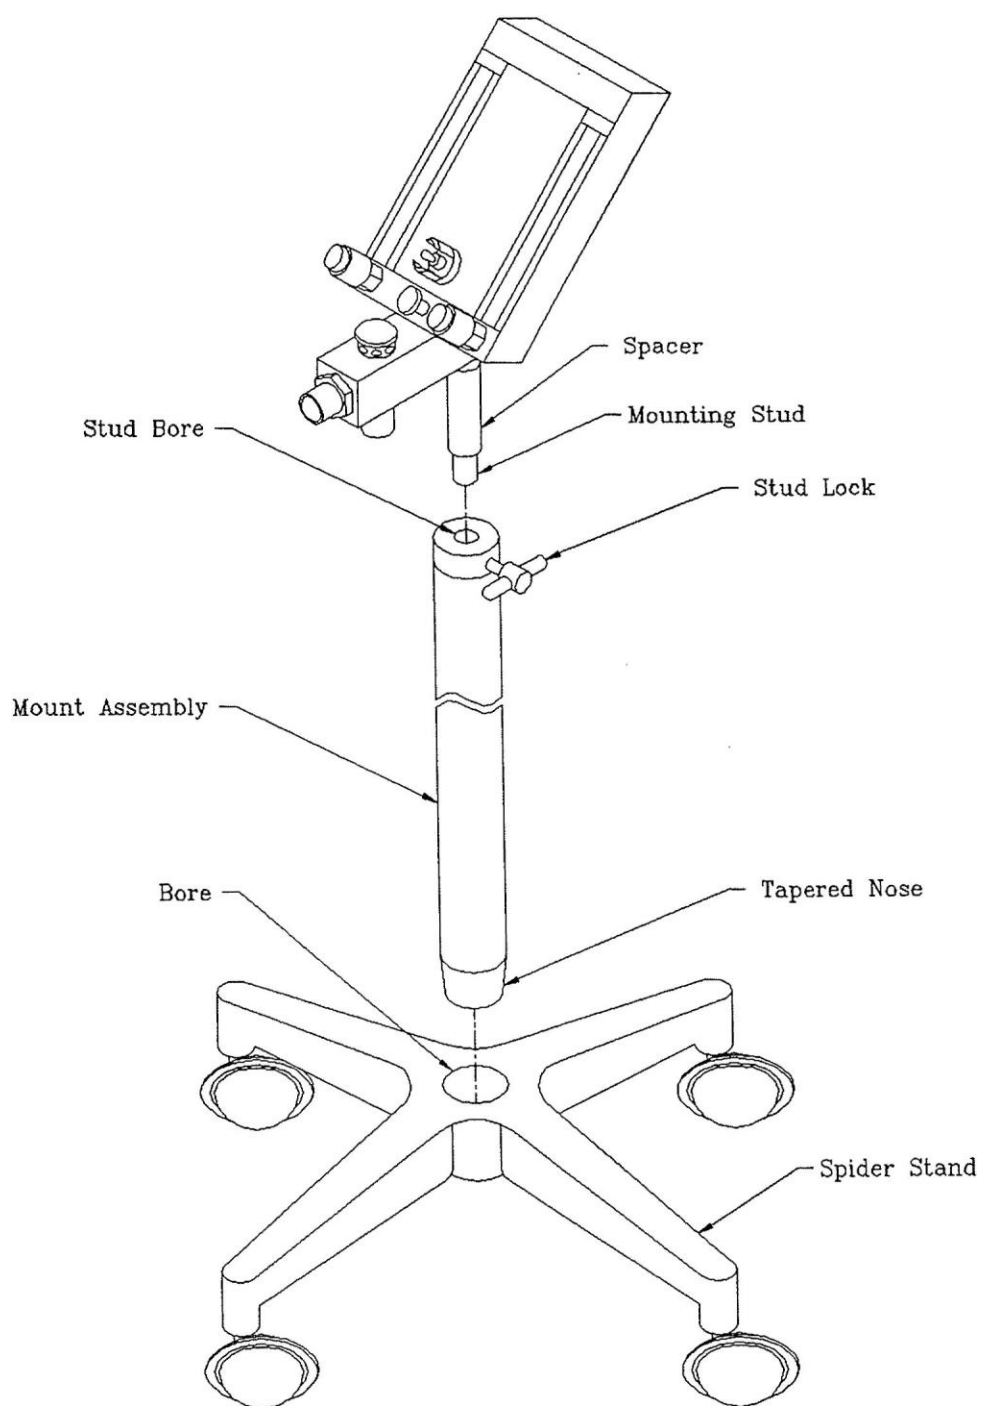

Figure 12
- D. Slide the tapered nose of the pole mount assembly into the bore of spider stand until it comes to a stop. (See fig 12).
- E. Slide the mounting stud through the post spacer (if supplied) and into the stud bore of the pole mounting stud. When the head is at the desired working height, rotate the stud lock clockwise until the stud is locked in place. (See fig 12).
- A. Assemble mobile stand unit as outlined in Figure 12.